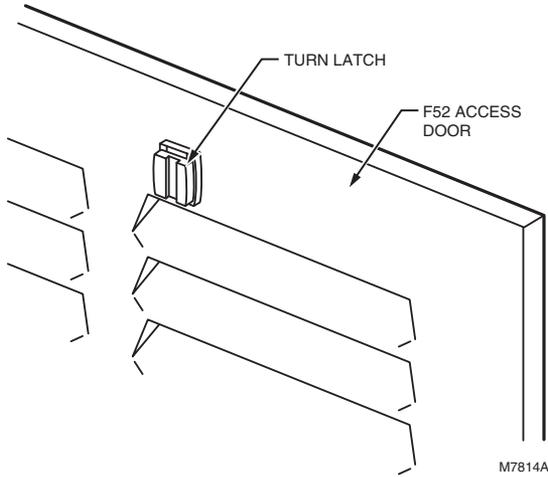

Fig. 4. Turn the door latches.
4. Close the door and fasten it with the two door latches (see Fig. 4).